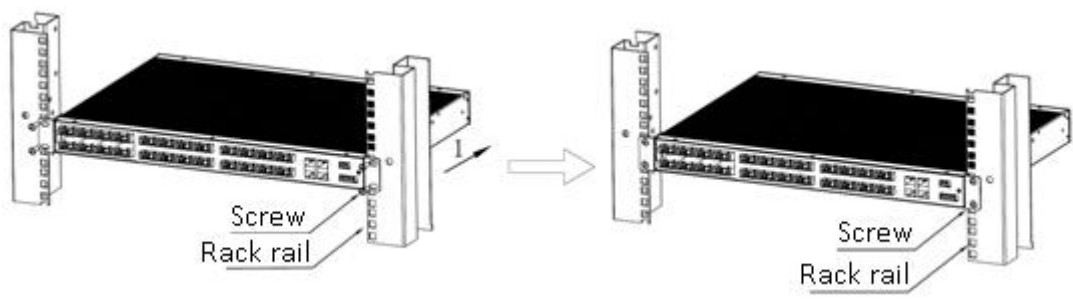

Figure 6: Mounting by rear panel
Step 3: As Figure 6 shows, move the device in the direction of arrow 1 and align the holes in the mounting brackets with the corresponding holes in rack rails; use 4 screws (M5×14) to fix the device on the rack.